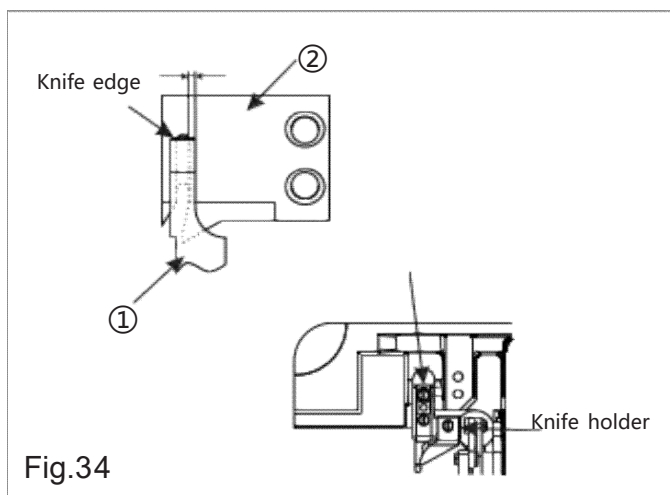

Fig.34
2. The relation between fixed knife and movable knife (Fig.34)
- 1) The clearance between fixed knife ① and movable knife ② should be 0.3mm
- 2) Adjust the position illustrated by the Fig.34.